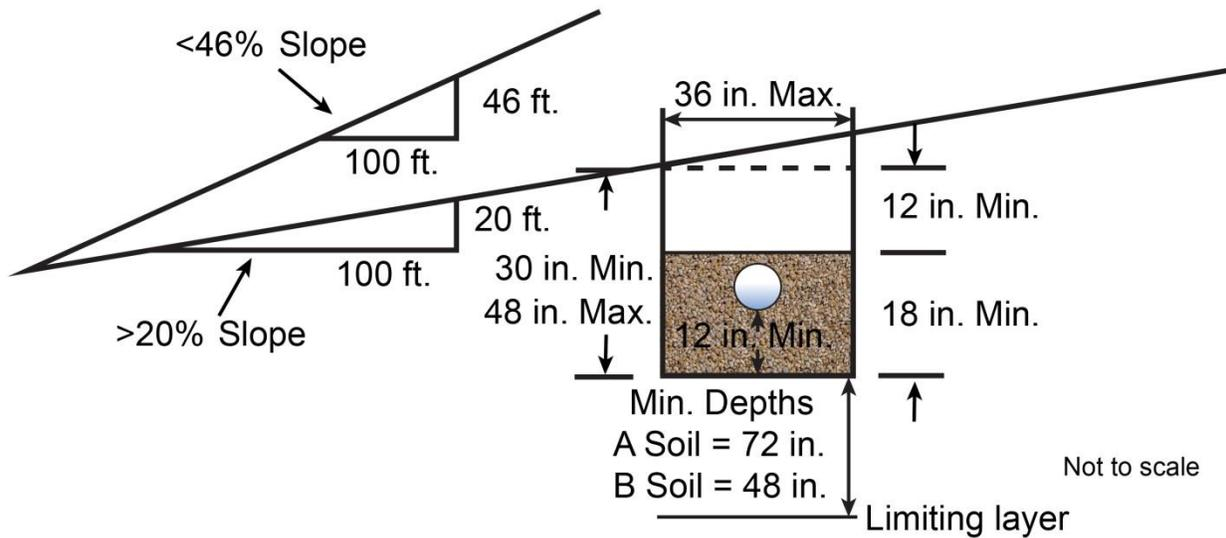

Figure 4-33. Illustration of a steep slope trench with an example of rise over run maximum and minimum slope.
4. Figure 4-33 illustrates the relationship between the site's vertical drop and horizontal run.